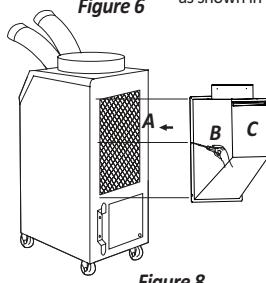

Figure 8
3. Install "B" which contains "C" by using driver with enclosed bolts(6EA) as Figure 8.